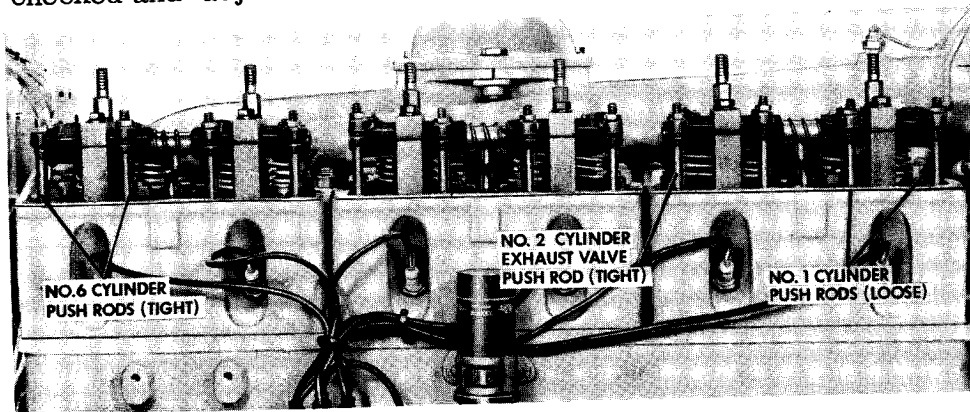

Figure 67
B. When the Number 1 piston is at top dead center on the compression stroke, the push rods will be loose on Number 1 cylinder and tight on Number 6 cylinder. The push rod for the exhaust valve on Number 2 cylinder will be tight. Refer to Figure 67. If the reverse is true, crank the engine one complete revolution.